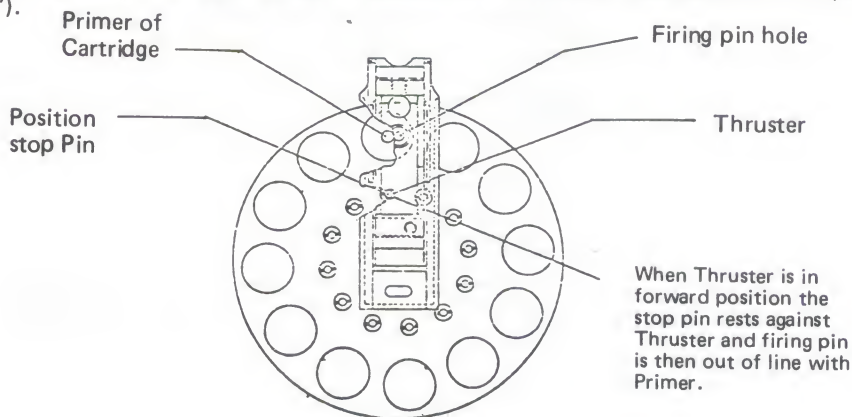

Fig. 3a.
If the weapon is dropped with the safety catch in the firing position, (Fig. 2) it will not discharge any rounds because of the unique safety feature built into the "STREET SWEEPER" (Fig. 3a and 3b).
Until the trigger is applied the magazine is always out of line with the firing pin (Fig. 3a and 3b) and barrel, and cannot be accidentally discharged (See Section on "Operation").
- 2.3.1 First stage (about halfway) allows the magazine to move from its Drop Safe Position (Refer to Section on Drop Safety, page 5), to the firing position (See Fig. 3a/3b).